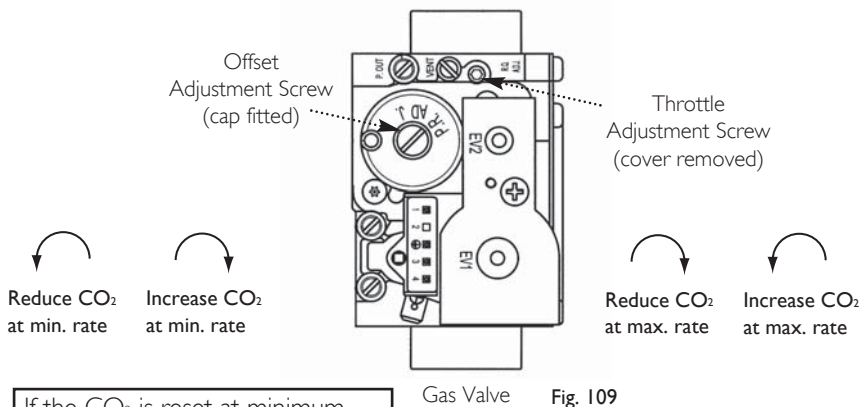

Fig. 109
8. It is possible to alter the CO2 by adjustment of the gas valve. Remove the plastic cover from the Throttle Adjustment Screw. At maximum rate the Throttle Adjustment Screw should be turned, using a suitable hexagon key, until the correct reading is obtained (Fig. 109). Turning clockwise will reduce the CO2. Anticlockwise will increase the CO2.
10. With the boiler on minimum, the Offset Adjustment Screw must be altered, using a suitable hexagon key, after removing the cap (Fig. 109). Turning anti-clockwise will reduce the CO2. Clockwise will increase the CO2.